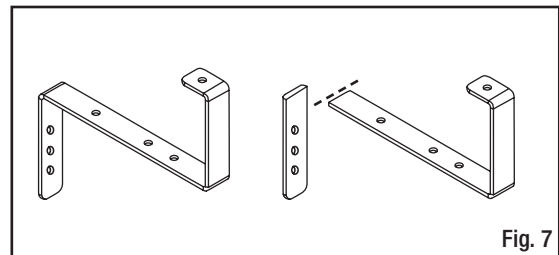

Fig. 7
1. Cut arms from both (B) brackets as shown in diagram. Be careful to ensure you are removing the correct arm Fig. 7.